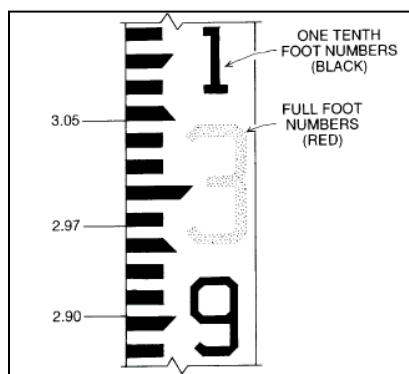

Figure 12 – Reading stadia rod
- Place the rod at 0 feet (should be at the left-bank benchmark) then use the level to view where the cross hairs intersect the rod (Figure 12). This is your **Stadia Reading** — record it on the data sheet.